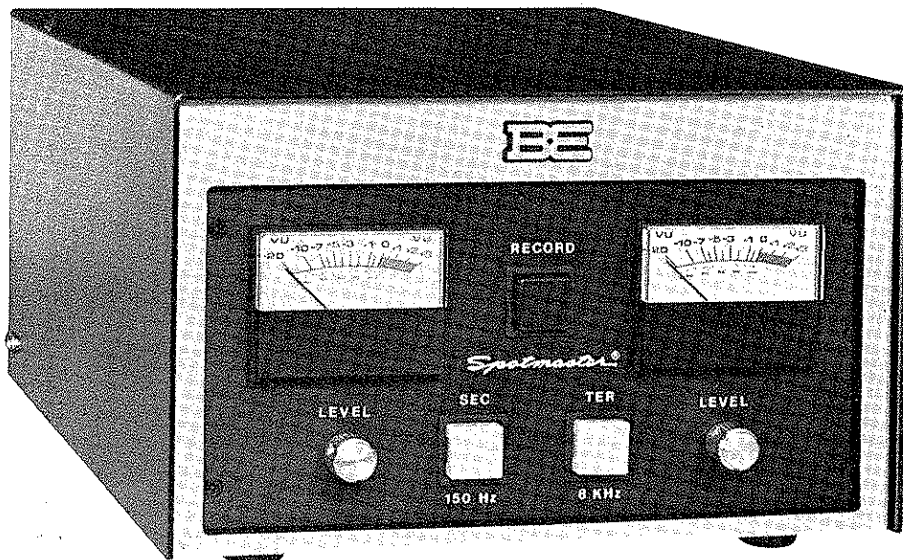

FIGURE 1-1. MODEL 5310 - STEREO RECORD AMP
B. The recording amplifier and control unit, shown in Figure 1-1 of this manual.